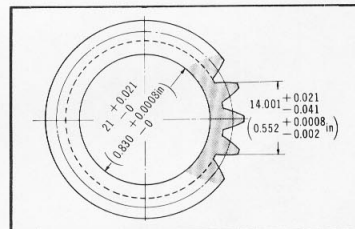

Figure 3-66. Primary drive gear
- (2) Primary drive gear (Fig. 3-66) [] for C50, C50M, S50